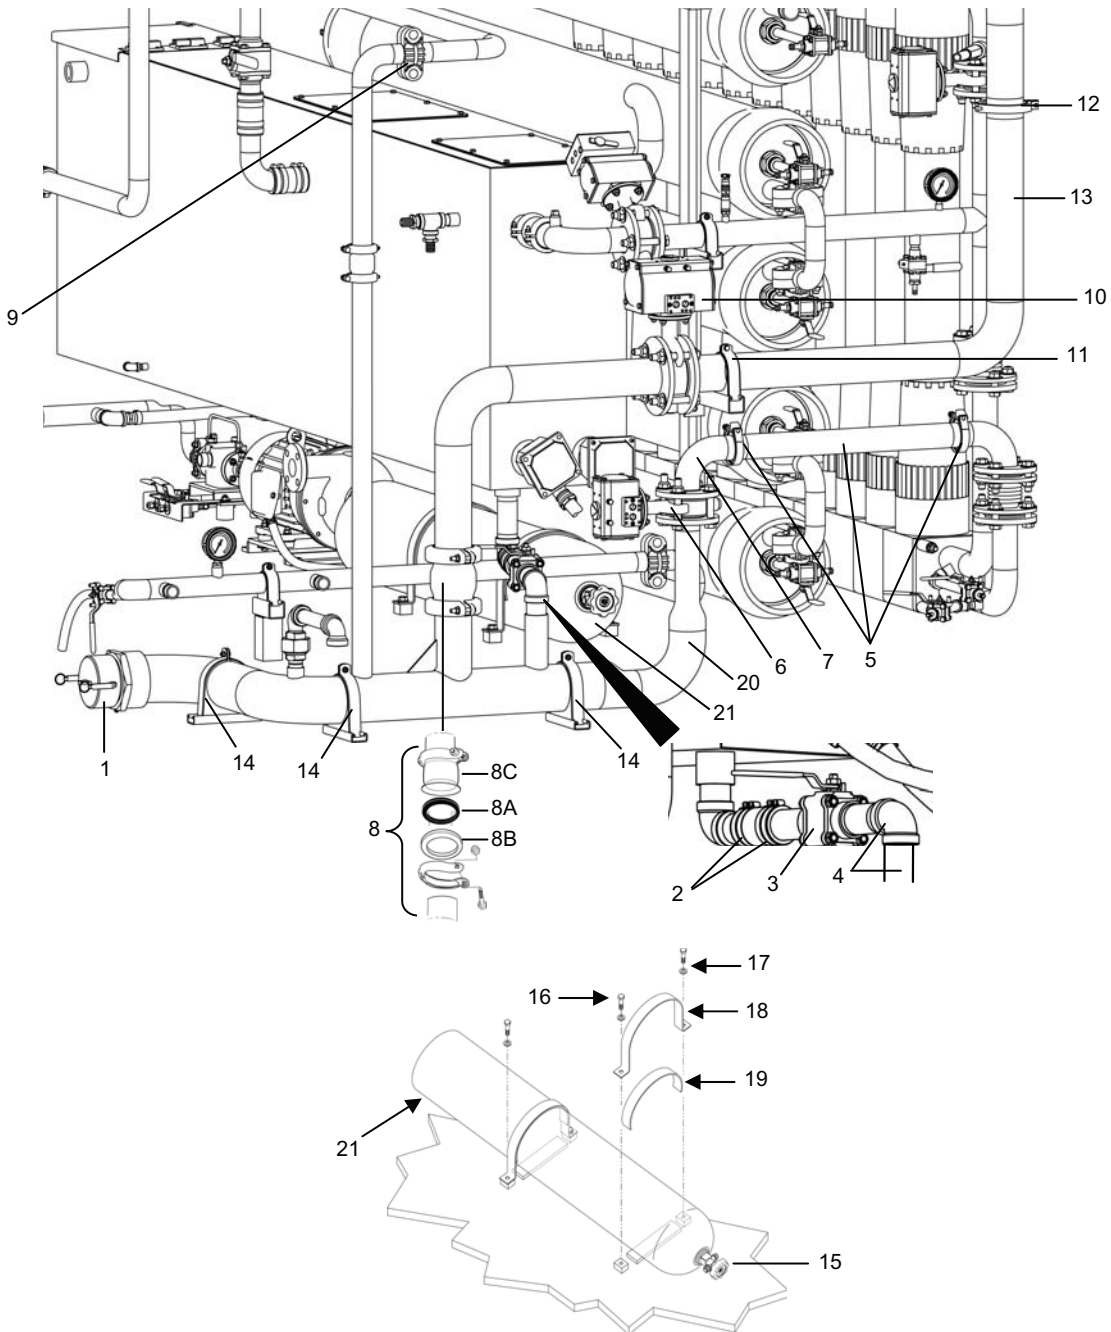

Figure 13. Waste Out Pipe Spool and Air Receiver Tank Removal.
9. Remove the waste out pipe spool from in front of the air receiver tank as follows (see Figure 13):
- a. Disconnect the 4-in. x 5-ft. suction hose from the waste outlet (1).
- b. Remove 4 hose clamps (2) from the 2-in. rubber hose in the RO Feed Tank Drain Pipe.
- c. Remove RO Feed Tank Drain Valve V-412 (3) with the straight pipes on both sides of the valve.
- d. Remove the drain elbow with its 3 in. nipple (4) from the waste out pipe spool.
- e. Remove the two sanitary clamps and straight pipe (5) from the pipe spool upstream from MF Lower Shell Out Valve V-402.
- f. Disconnect the air tube from the MF Lower Shell Out Valve V-402 actuator (6) (see WP 0025, TM 10-4610-309-10).
- g. Remove MF Lower Shell Out Valve V-402 (6) and pipe elbow (7) (4 bolts, 8 washers, 4 nuts).
- h. Loosen the pipe coupling on the MF upper shell reject pipe spool (8) and push the coupling all the way down the lower pipe. Even pressure on both sides of the gasket (8A) makes it easier to slide the coupling down.
- i. Remove the grooved coupling (9) from the RO reject pipe spool.
- j. Remove the air tube from Shell Backwash Upper Outlet Valve V-401 (10) (see WP 0025, TM 10-4610-309-10).
10. Remove the air receiver tank from the TWPS as follows (see Figure 13):